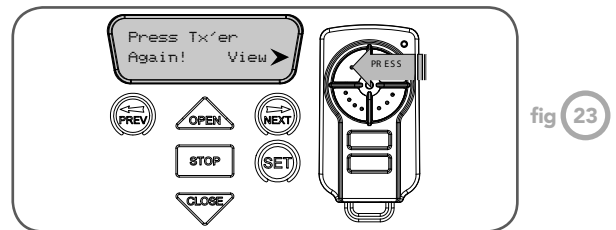

fig 23
3. Press the same transmitter button again as prompted by the display (Fig. 23).